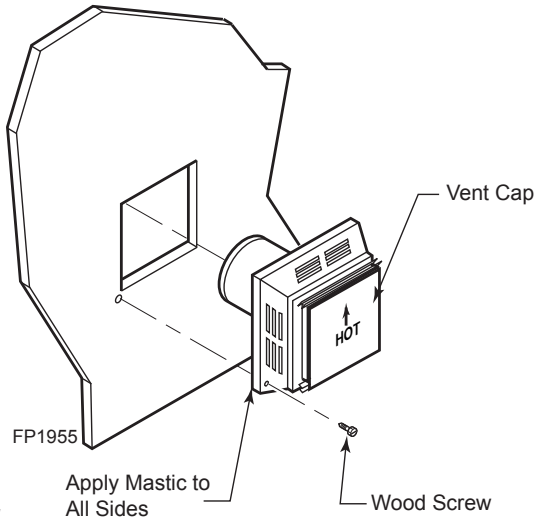

Figure 17 - Install Horizontal Vent Cap
5. Apply a bead of non-hardening mastic around the outside edge of vent cap. Position the vent cap in the center of hole on the exterior wall with the word "UP" on the vent cap facing up. Insure proper clearance of 1" to combustibles is maintained. Attach the vent cap with four wood screws supplied. *Figure 17*
1. Establish vent hole through the wall. Page 16, Figure 17.